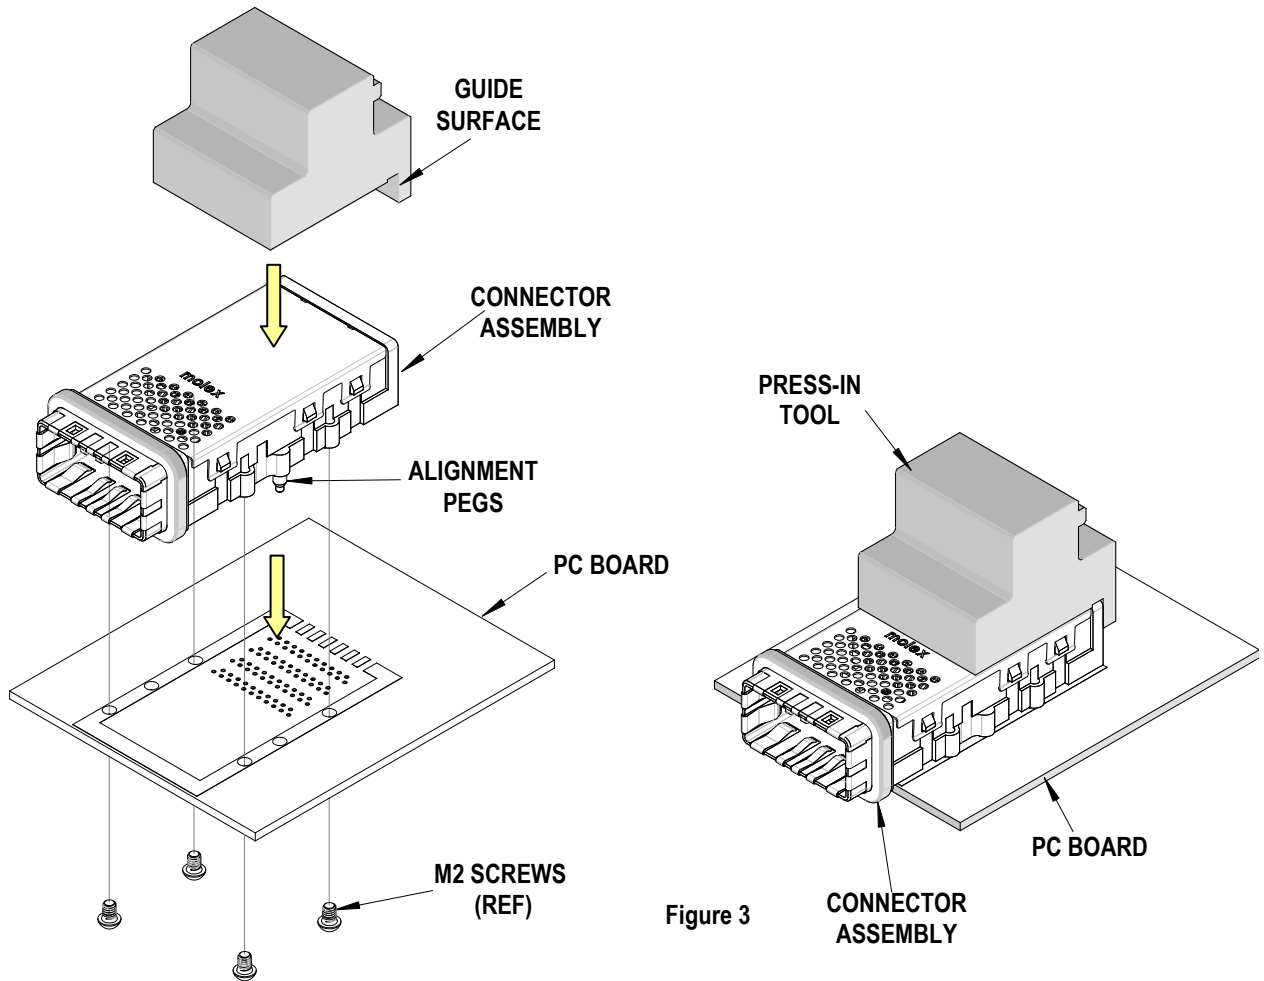

Figure 3
1. Carefully insert, by hand, the connector assembly using the alignment pegs (2) for location on the PCB.
2. Place the press-in-tool on top of the connector assembly with the back guide surface of the tool against the back of the connector assembly. See Figure 3.